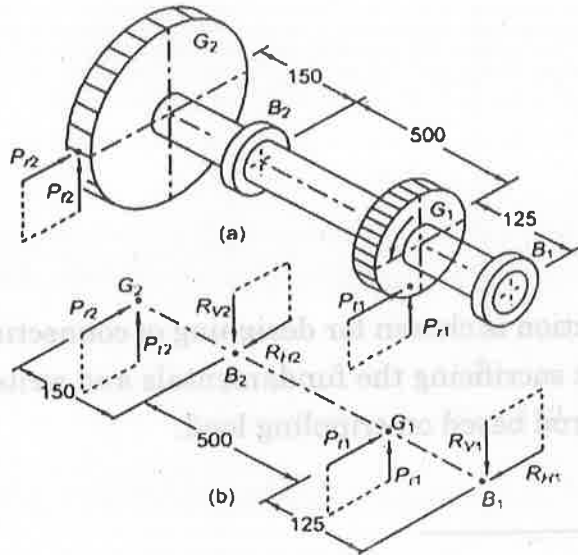

Fig. 15. (a)
- b) The turning moment diagram of a multi-cylinder engine is drawn with a scale of  $(1 \text{ mm} = 1^\circ)$  on the abscissa and  $(1 \text{ mm} = 250 \text{ N-m})$  on the ordinate. The intercepted areas between the torque developed by the engine and the mean resisting torque of the machines, taken in order from one end are  $-350, +800, -600, +900, -550, +450$  and  $-650 \text{ mm}^2$ . The engine is running at a mean speed of 750 rpm and the coefficient of speed fluctuation is limited to 0.02. A rimmed flywheel made of grey cast iron FG 200 (density =  $7100 \text{ kg/m}^3$ ) is provided. The spokes, hub and shaft are assumed to contribute 10% of the required moment of inertia. The rim has rectangular cross-section and the ratio of width to thickness is 1.5. Determine the dimensions of the rim. (13)
15. a) A shaft transmitting 50 kW at 1255 rpm from the gear  $G_1$  to the gear  $G_2$  and mounted on two single-row deep groove ball bearings  $B_1$  and  $B_2$  as shown. The gear tooth forces are  $P_{t1} = 15915$  N,  $P_{r1} = 5793$  N,  $P_{t2} = 9549$  N and  $P_{r2} = 3476$  N. The diameter of the shaft at bearings  $B_1$  and  $B_2$  is 75 mm. The load factor is 1.4 and the expected life for 90% of the bearings is 10000 h. Select suitable ball bearings. Refer figure 15 (a). (13)